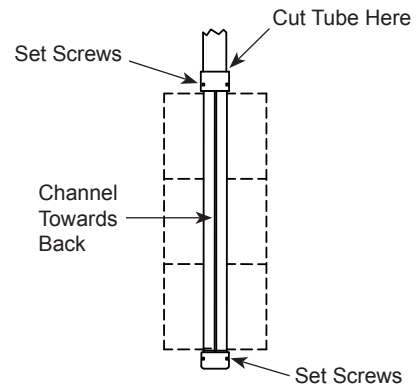

Figure 4
12. Screw the tube/gusseted tube into the lower arm stopping at a point where the channel (if using a gusseted tube) is facing away from the signal. (Figure 4)
14. Torque the set screws to 13 ft-lb in the upper and lower arms. DO NOT OVERTIGHTEN. (Figure 4)
15. Optional: Using the hack saw, cut off any excess tube protruding above the upper arm. (Figure 4)